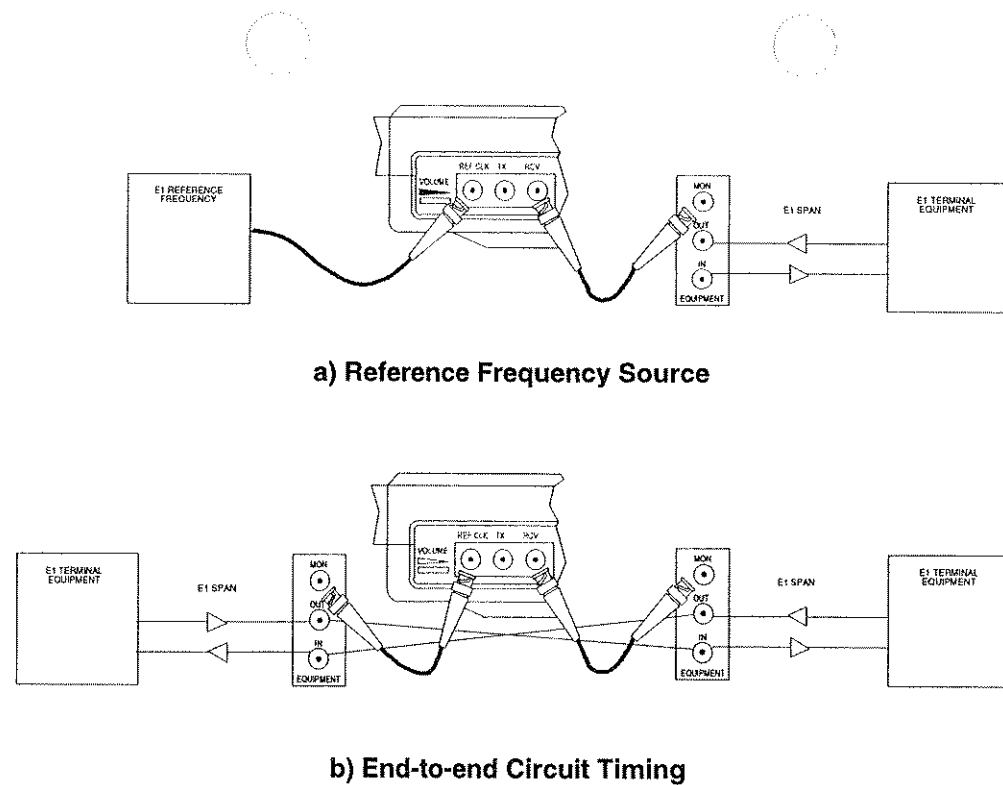

Figure 7.3A Frequency Synchronization
- 2) Obtain a 2.048 Mbps reference frequency source, or compare the end-to-end timing of the circuit. Refer to Figure 7.3A. Note that the SunSet E1 requires a 2.37 Volt or 3.00 Volt AMI or HDB3 reference source. The SunSet E1 will terminate the source in a 75Ω unbalanced or 120Ω balanced resistance. The 2.37 Volt / 75Ω source is used with the BNC to BNC cable. The 3.00 Volt / 120Ω source is used with the BNC to Banana 3-pin cable.